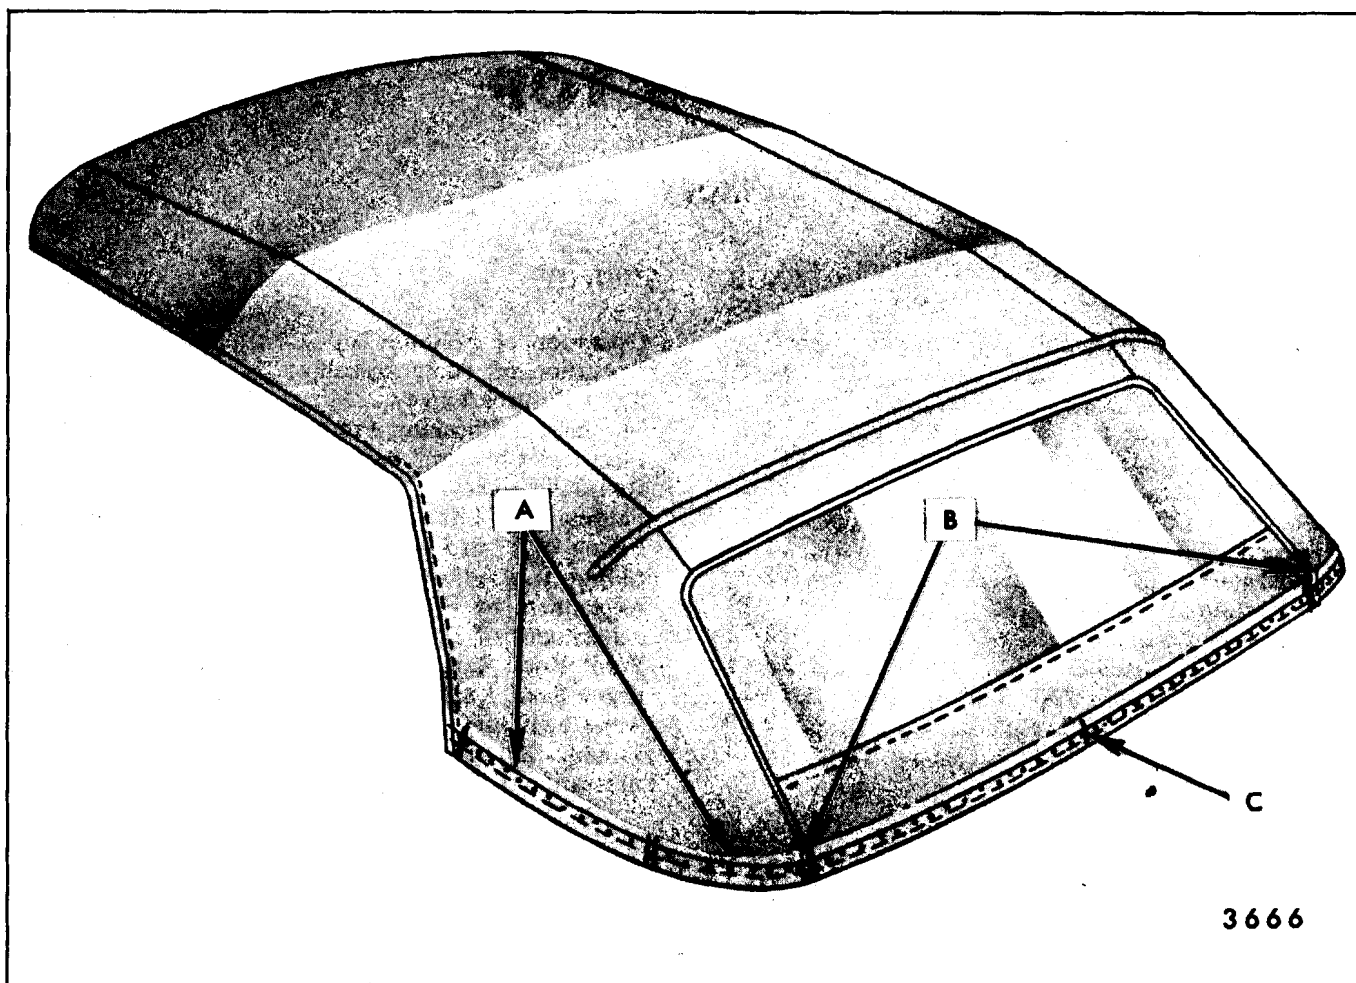

Fig. 12-1-Reference Marks on Top Cover and Back Curtain
2. Mark position of top cover vertical edges on back curtain valance at rear belt line. Use sharpened grease pencil (Item "C", Fig. 12-1).
- A. Using a suitably sharp pencil, ACCURATELY mark location of complete rear trimstick (UPPER AND LOWER edges and ends) on outer surface of top cover and on back curtain. Re-check, and mark right and left inner vertical edge of top cover on back curtain at trimstick. Make center mark on curtain at "V" notch on trimstick (See Fig. 12-1).
- A. Transfer location marks for trimstick (UPPER AND LOWER trimstick edges, as well as ends, Fig. 12-1).
5. As a bench operation, position and locate top cover to trimstick according to reference marks and tack top cover to trimstick. Tack from top cover inner vertical edge reference on back curtain toward front (Item "B", Fig. 12-1). Avoid excessive stretching, but keep material flat during tacking operations.